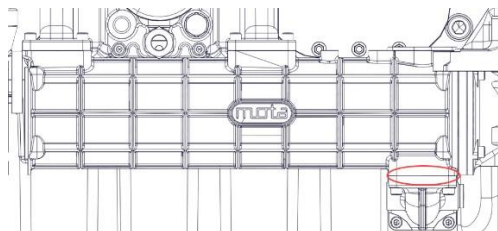

Figure 154-8.
5. Reinstall lower elbow **WITHOUT O-Rings**. Adjust bolts to hand-tighten position, only until no gap remains between surfaces (Figure 154-8).